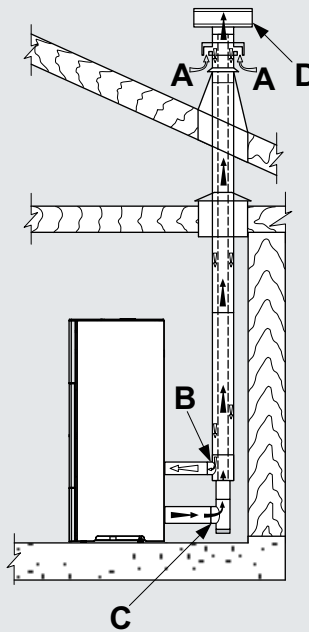

Fig. 5.5
- ducted combustion air using a coaxial pipe to discharge the flue gas and take in fresh air; consequently no fresh air vent is needed in the room (Fig. 5.5 A, B=Air intake, C=D=Flue gas)
For “Ermetica” series pellet stoves a special coaxial pipe can be used to both discharge the flue gas and duct the combustion air from the outside (Fig. 5.5 A, B=Air intake C, D=Flue gas outlet).